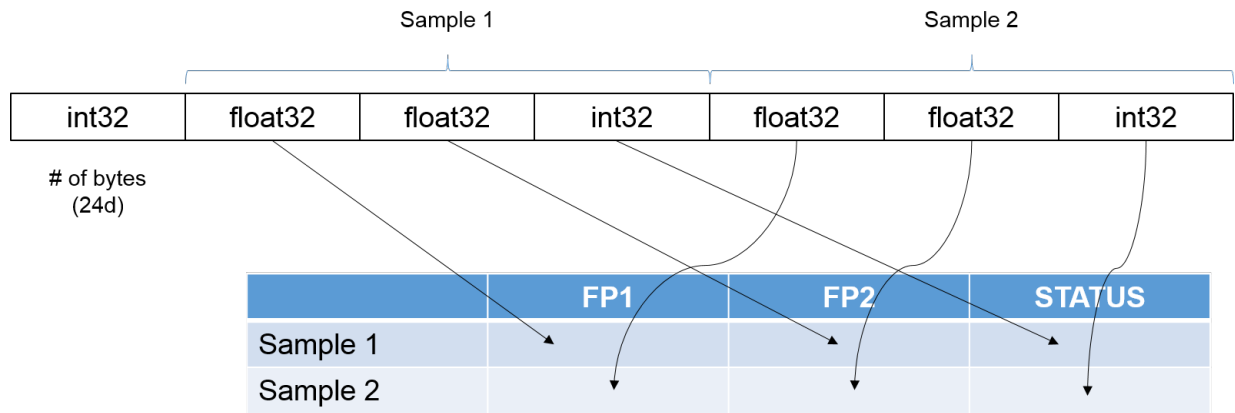

Figure 2: Example format of the Request response packet.
- e.g.: Having a parameter **DATA=ffi** and channel names **Channels=FP1,FP2,STATUS**, a packet containing two samples is illustrated in Figure 2.